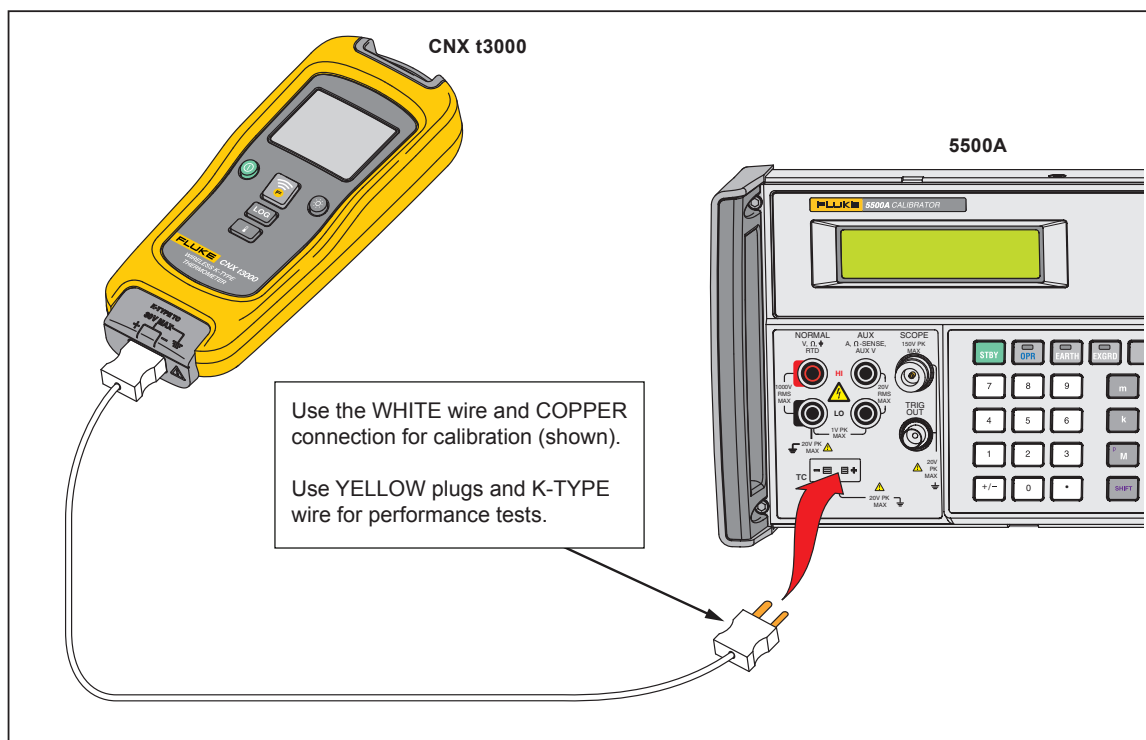

Figure 2. Performance Test and Calibration Connections
1. Connect the Product to Calibrator with the K-type thermocouple wire and the thermocouple connector. See Figure 2.
*To source 30 mV dc from the 5500A Calibrator thermocouple output, it is necessary to select the **10 μ V/°C Type** from the softkey menu of the 5500A. Then source 3000 °C. The connections are the same as in Figure 2 but it is necessary to use the thermocouple and wire specified for calibration that is shown in Table 2. Do not use the thermocouple and wire specified for the performance test.*